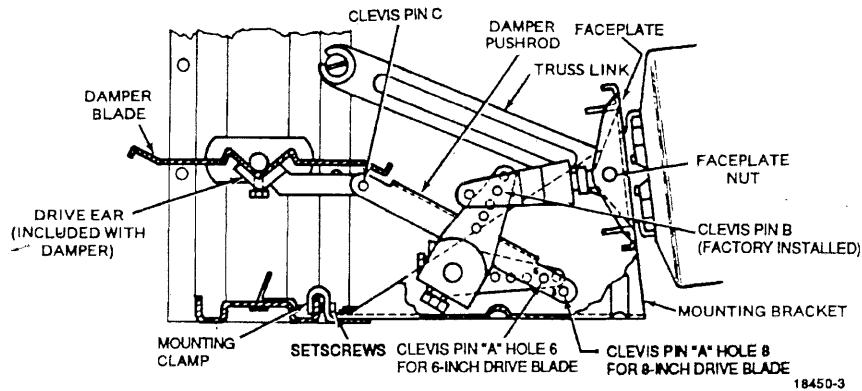

Fig. 11. Internal Mounting Normally Open Installation.
3. Use 1/8-inch Allen wrench to loosen mounting setscrews on damper mounting clamp one turn (Fig. 11). Remove and discard shipping stop.
4. Determine height of damper drive blade. Dampers with 10 (254), 12 (309), 18 (457), 26 (660), 34 (864), and 48-inch (1219 mm) height have 8-inch (203 mm) drive blades. All others have 6-inch (152 mm) drive blades.
5. For installation with 6-inch (152 mm) drive blades skip this step and go on to Step 6. For 8-inch (203 mm) drive blades, remove Clevis Pin A from damper pushrod clevis pin hole marked 6 and reinstall in clevis 8 pin hole marked 8 (Fig. 11). (Mate with crankarm hole marked 90.)
6. Loosen faceplate nut between mounting bracket and truss link (Fig. 11). Remove Clevis Pin C from damper pushrod.